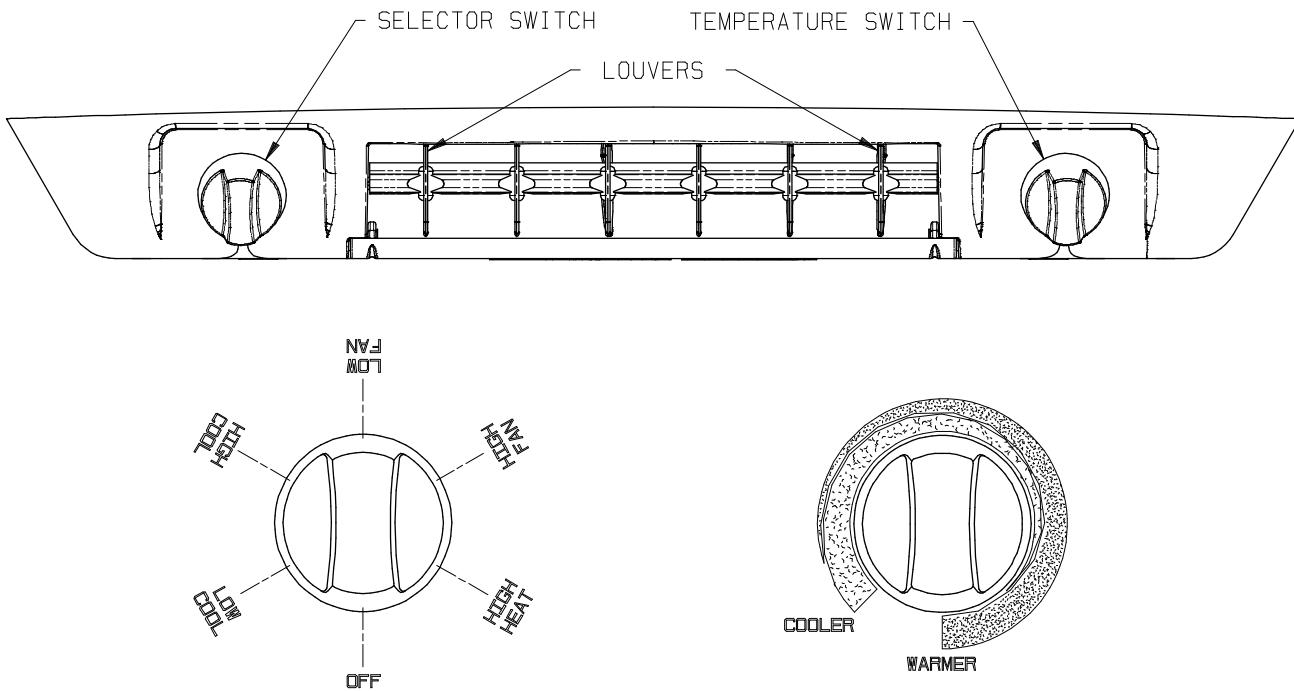

FIGURE 1
- A. The Selector Switch – The selector switch determines which mode of operation the heat pump will be in. By rotating the selector switch, the operator can obtain any system function desired. System functions vary depending upon options of both the roof top unit and ceiling assembly. Figure 1 shows selector switch location and lists all available functions by model.
- B. The Thermostat (temperature control) – The thermostat regulates the "ON" and "OFF" temperature setting at which the compressor will operate (See Figure 1).
- I. For Cooling Operation (Refer to Figure 1, page 3).**
IV. For Heating Operation (Refer to Figure 1, page 3).
For Air Circulation Only (Refer to Figure 1, page 3).